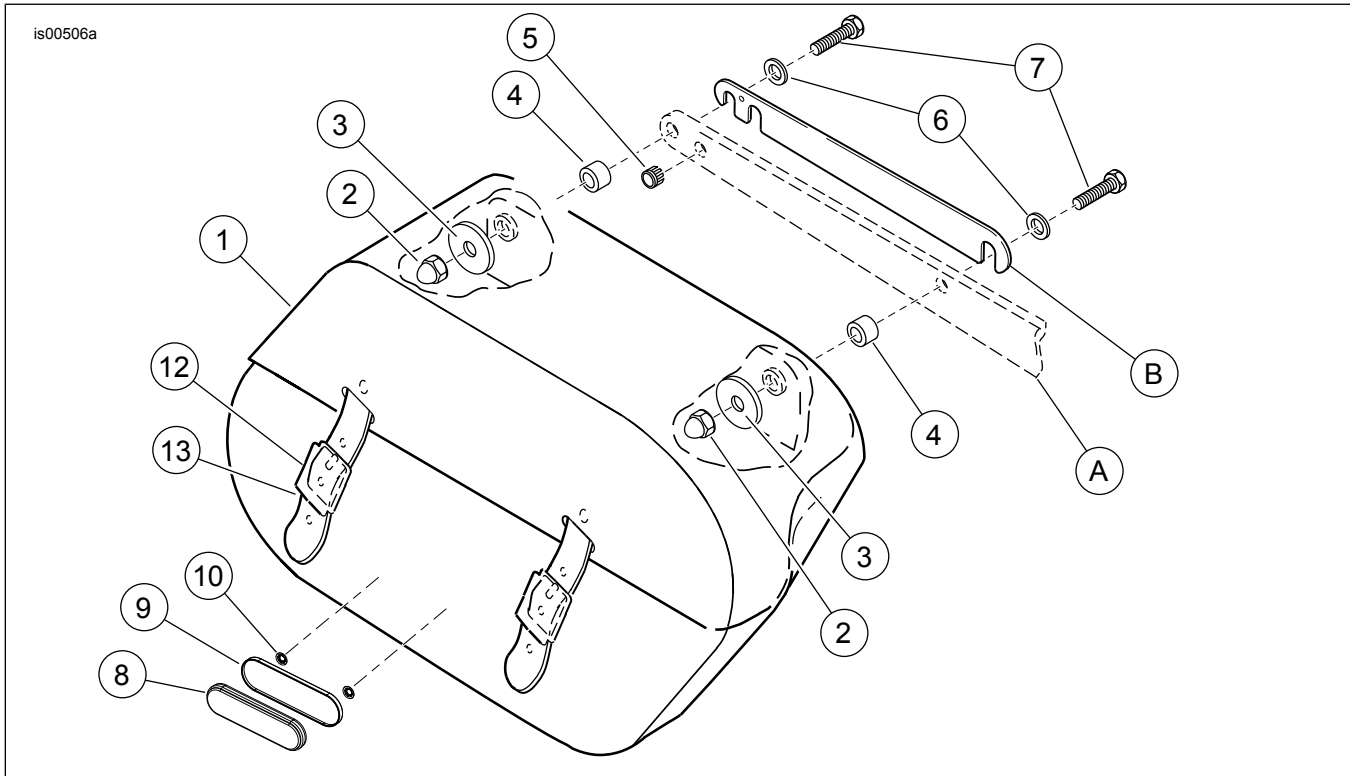

Figure 2. Service Parts for 2002-2005 Applications
See Figure 2 and Table 1.
Refer to Figure 2 for the following procedure.
- The vehicle does not come equipped with a spacer (see Figure 2).
- The vehicle has no spacer (see Figure 2) and detachable side plates are installed.
6. Install an acorn nut (2) onto the bolts (7) from the inside of the saddlebag. Tighten the nuts to 34 N·m (25 ft·lbs).